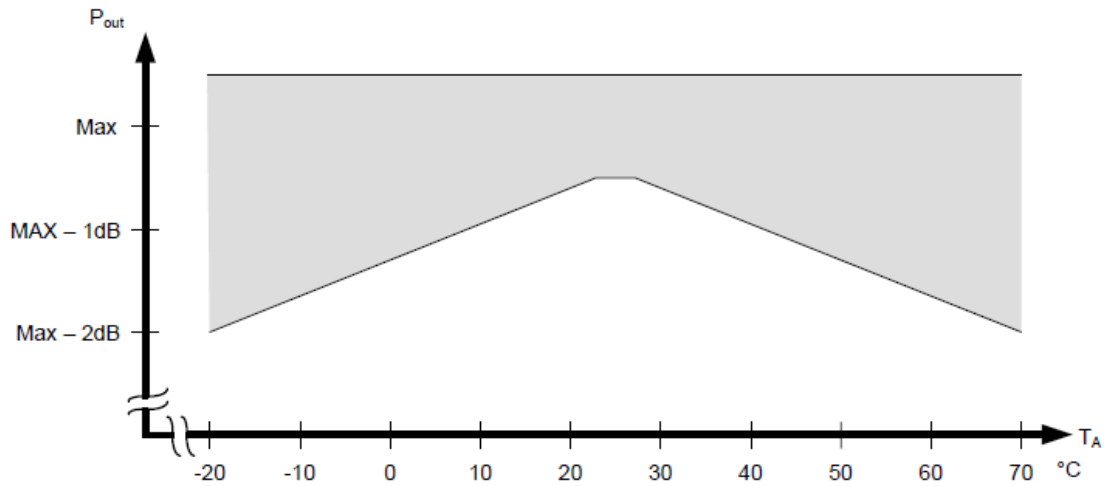

Figure 3-1: P_{out} vs. ambient temperature
1) TX output power varies with temperature as shown in Figure 3-1